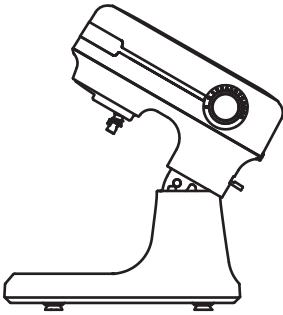

Fig.2
- 1.Mix the food ingredients thoroughly in accordance with the detail in the recipe; Then lift up the unlock lever(4) and swing up the drive arm.Fig.2 Fig.3